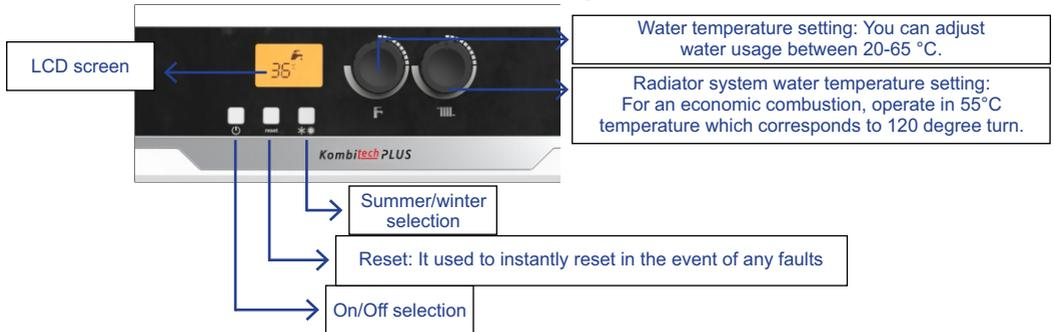

Figure 1.6.3
- User interface of the device is shown in Figure 1.6.3.